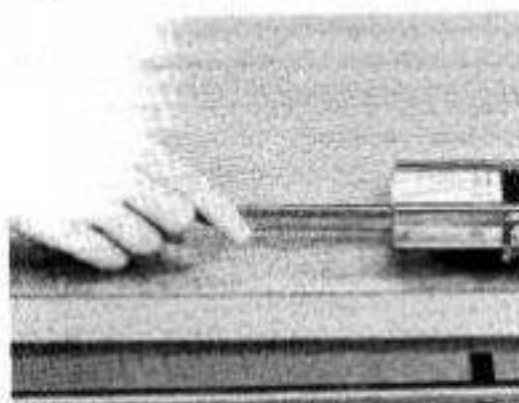

Fig.67
- Pull out the needle holder rod until the opposite end is clear of the needle you wish to change. (Fig.67)